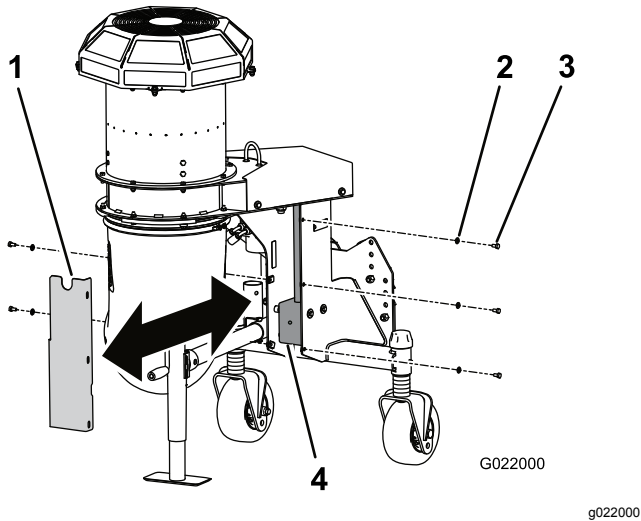

Figure 15
2. Remove the 5 bolts and washers securing the gear case cover to the blower (Figure 15).
3. Remove the cover to expose the blower gear case (Figure 15).